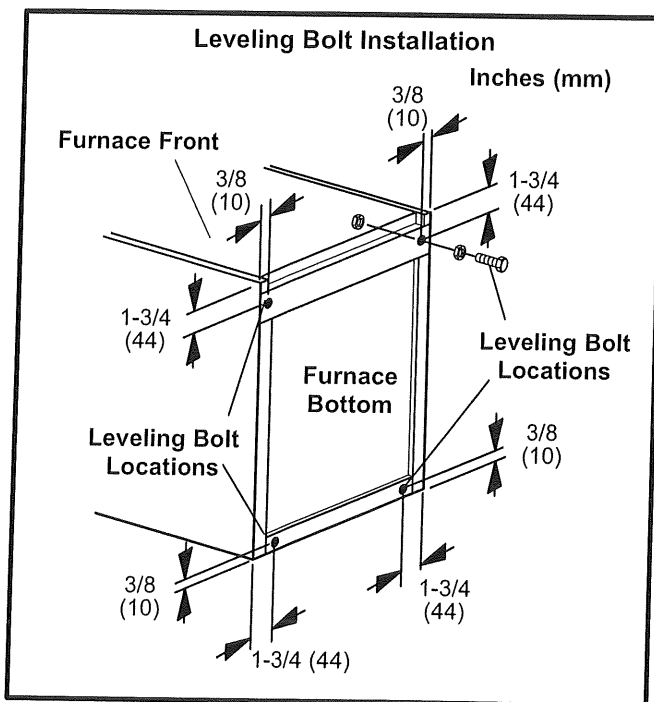

FIGURE 11
When the side return air inlets are used in an upflow application, it may be necessary to install leveling bolts on the bottom of the furnace. Use field-supplied corrosion-resistant 5/16 inch machine bolts (4) and nuts (8). See figure 11.
- 1 - Lie the furnace on its back and drill a 5/16 inch diameter hole in each corner of the furnace's bottom. See figure 11 for the correct location of the holes. Drill through the bottom panel and the bottom flange of the cabinet.